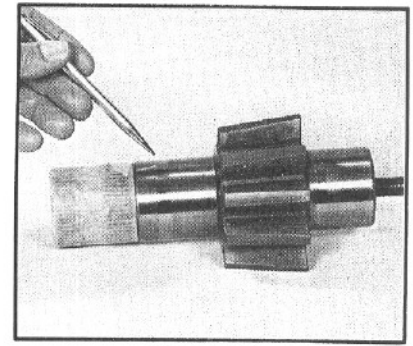

Figure 87
7. Inspect the sector shaft (50) bearing and sealing areas for brinelling or spalling (FIG. 87). Run your fingernail edge across these areas to detect steps. Inspect also for cracks. If any of these conditions exist, replace the sector shaft.